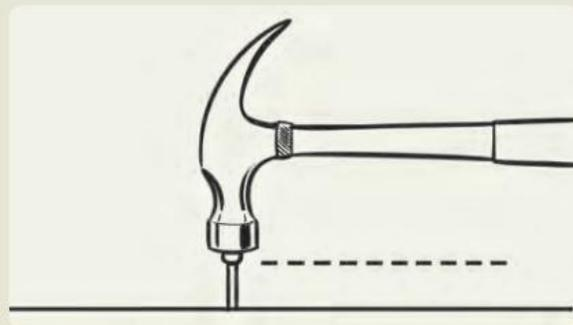

Figure 3.57 Parallel nailing
1 Figures 3.57 to 3.59 show common methods of nailing timbers together.
- 3 Cut six pieces of timber, then join two pieces of timber for each method shown in Figures 3.57 to 3.59.